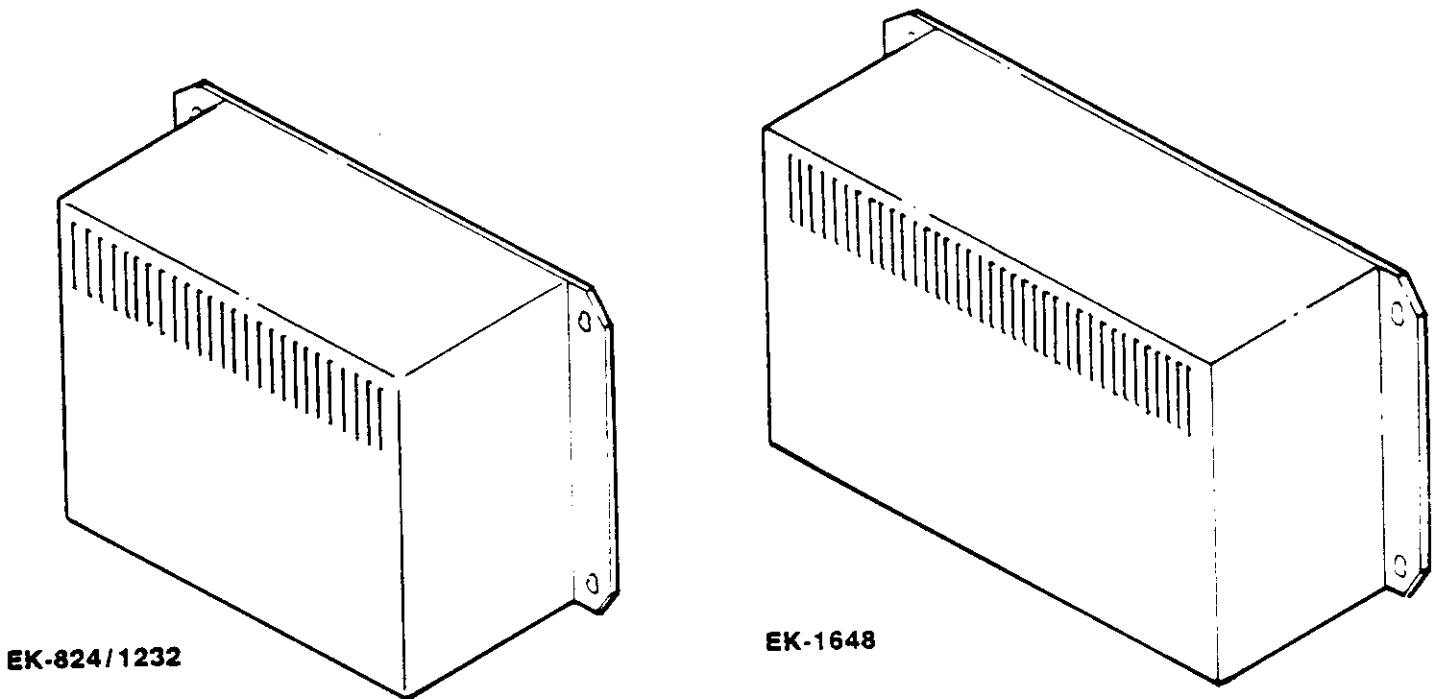

Figure 1-1 KSU, EK-824/1232/1648
2.04 The Key Service Unit (KSU) (Figure 1-1) is a wall-mounted, convection-cooled device equipped with replaceable PCBs.